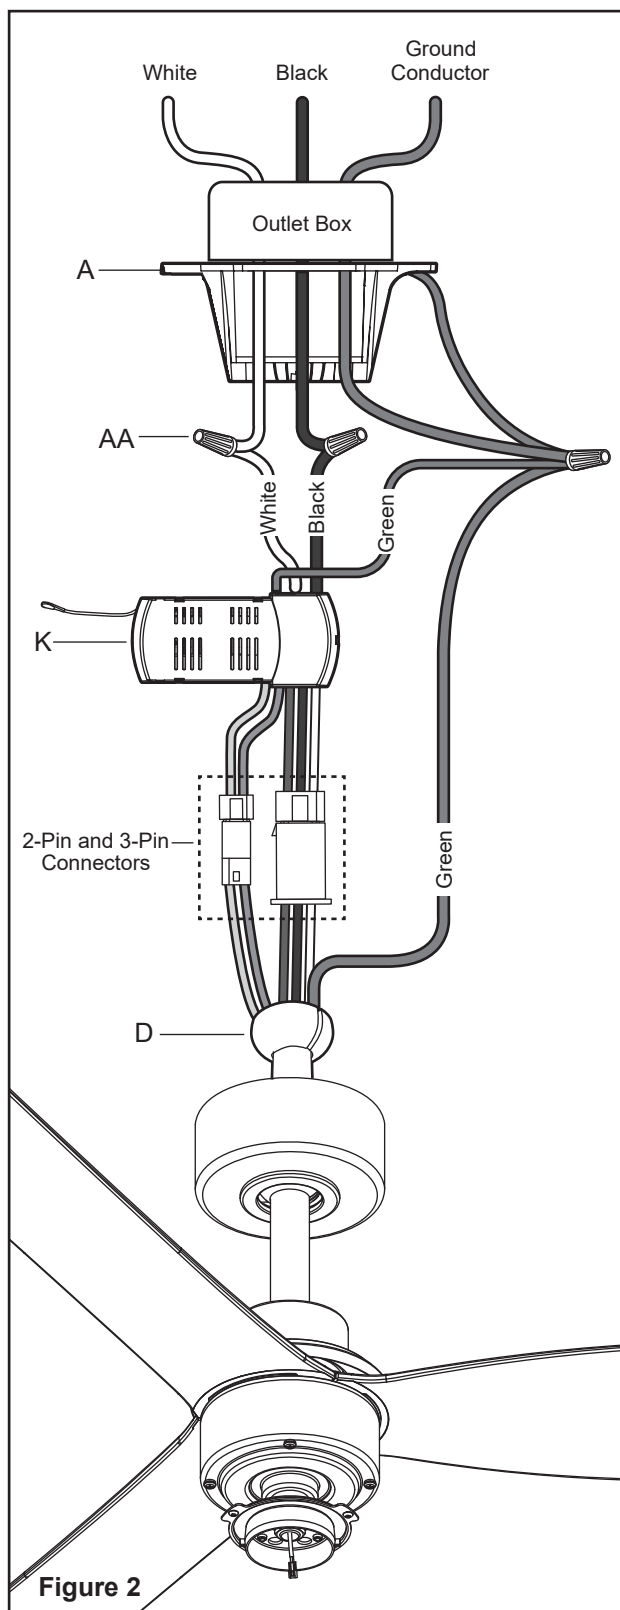

Figure 2
2. Make wire connections from the fan to the receiver (K). (Figure 2)
3. Make wire connections from the receiver (K) and fan to the outlet box as follows, using the wire nuts (AA). (Figure 2)
* There are three green grounding leads: one from the mounting bracket (A), one from the downrod assembly (D) and one from the receiver (K).
4. Turn the wire nut connections upward, spreading them apart so the green (ground) and white wires will be on one side of the outlet box and the black wire will be on the other side. Carefully tuck wires into the outlet box space above the receiver or evenly around the sides of the hanger bracket. (Figure 2)